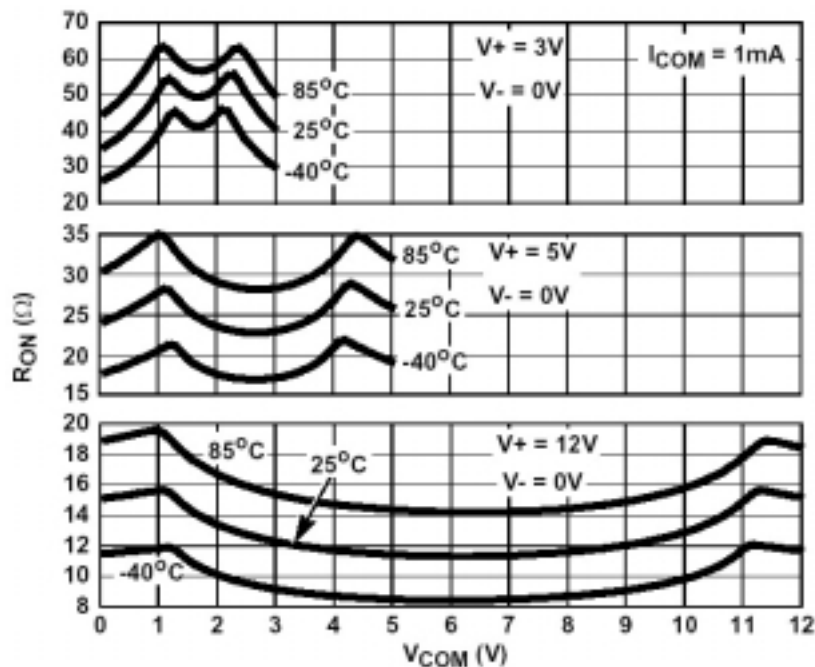

Fig. 2: ON Resistance Vs. Switch Voltage (Intersil ISL43143)
A graphical representation (Fig. 2) shows the influence of voltage and temperature on R_{ON} . Note the interesting, twin-peaked, characteristics of each curve, which is caused by the overlapping conduction of the two paralleled FETs that form the switch.
1. R_{ON} changes indirectly with supply voltage. The higher the supply voltage, the lower is the ON resistance of the switch. Fig. 2 shows three sets of graphs that correspond to three different, yet typical, supply voltages that might be applied to power the switch: 3 V, 5 V, and 12 V, all referenced to ground. Note that the vertical R_{ON} scale for the 3-V graphs ranges from 20 to 70 Ω while the R_{ON} scale for the 12-V graphs ranges from only 8 to 20 Ω . The designer will concentrate on the set of graphs that correspond to the supply voltage that will be used to power the IC in the application. This change in R_{ON} with supply voltage is not usually considered to be a problem because the supply voltage is usually a constant value